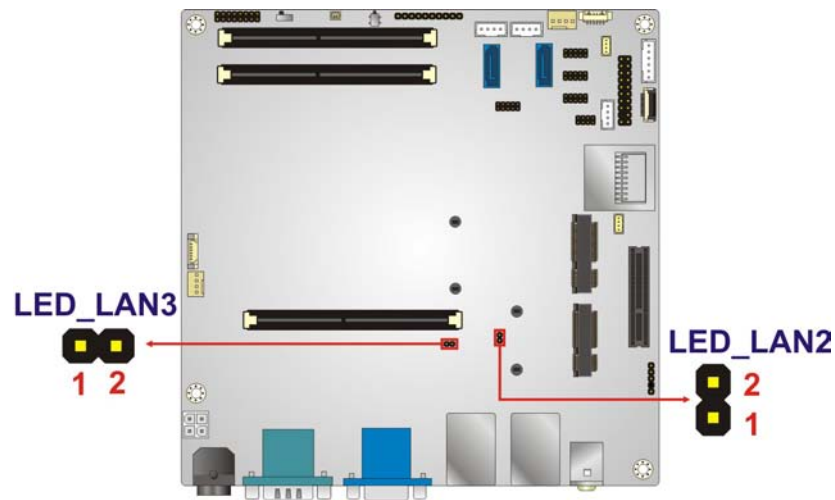

Figure 3-13: LAN LED Connector Location
- CN Location:See **Figure 3-13**